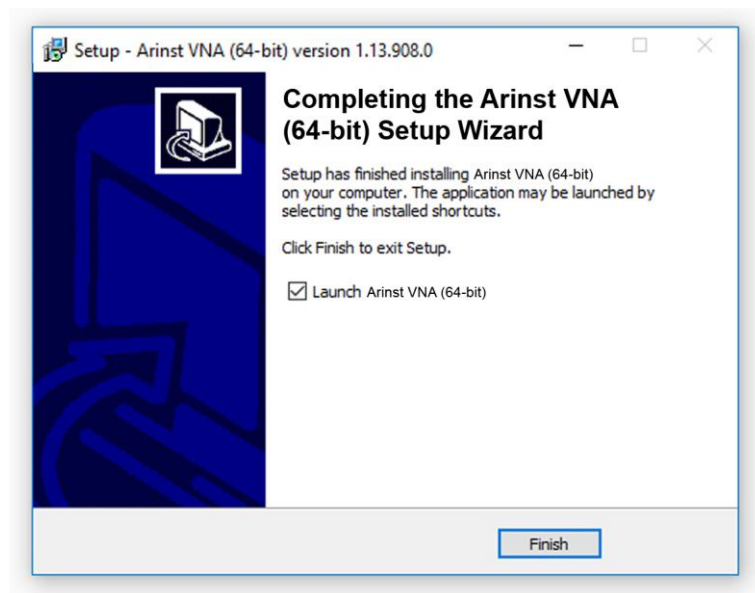

Figure 2.10-Completing the application installation
2.10. After completing the installation of the Arinst VNA application, the application installation wizard will inform the user that the application is installed. To start the application immediately after exiting the installation wizard, check the box next to the corresponding option. Click **Finish** to exit the installation wizard (figure 2.10).